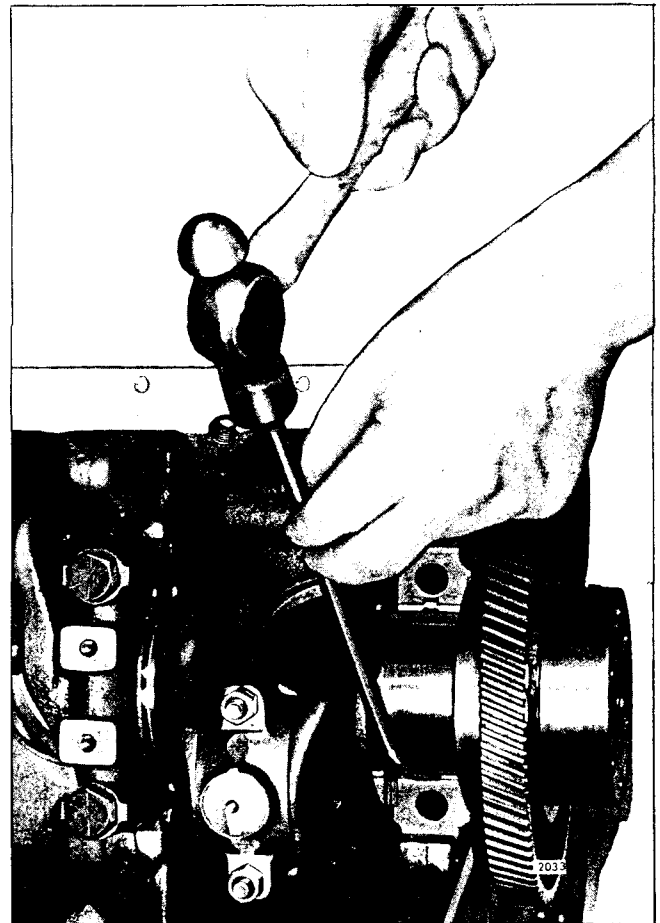

Fig. 5 - Removing Rear Main Bearing Upper Shell - Crankshaft in Place
- c. Remove the rear main bearing upper shell by driving on the edge of the bearing shell with a small curved rod (Fig. 5) and revolving the crankshaft at the same time, thus rolling the shell from its position.